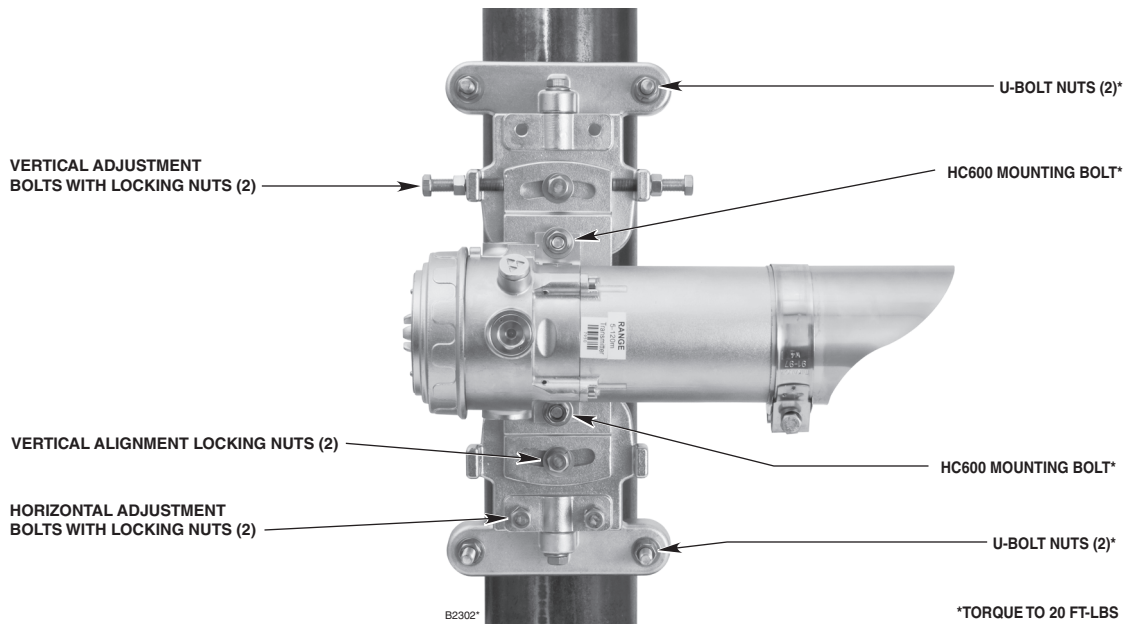

Figure 17—HC600 Mounting and Alignment Hardware (Transmitter Module Shown)
3. Loosen the locking nuts on the alignment adjuster bolts so that the bolts can be freely tightened or loosened for alignment purposes. Loosen, then hand-snug the two vertical alignment locking nuts. See Figure 17. At this point, the unit should be easily adjustable in the vertical and horizontal positions with little or no adjustment slop.